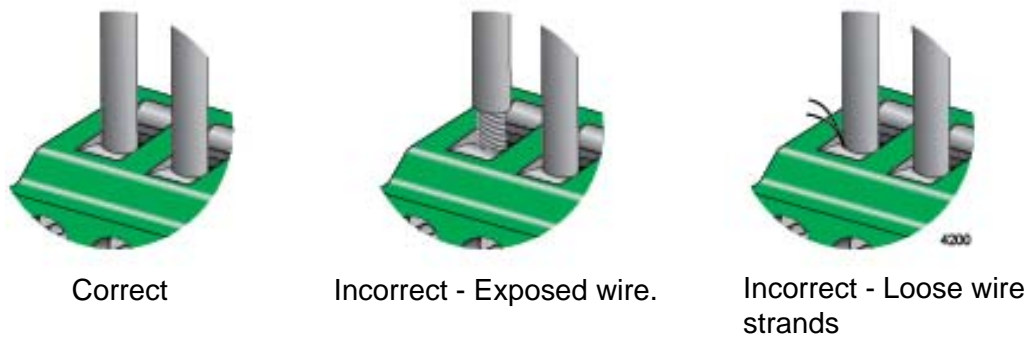

Figure 46. Verifying the Wire Installation
6. After attaching the wires to the connector, verify that there are no exposed wires or loose wire strands. Refer to Figure 46 on page 95.